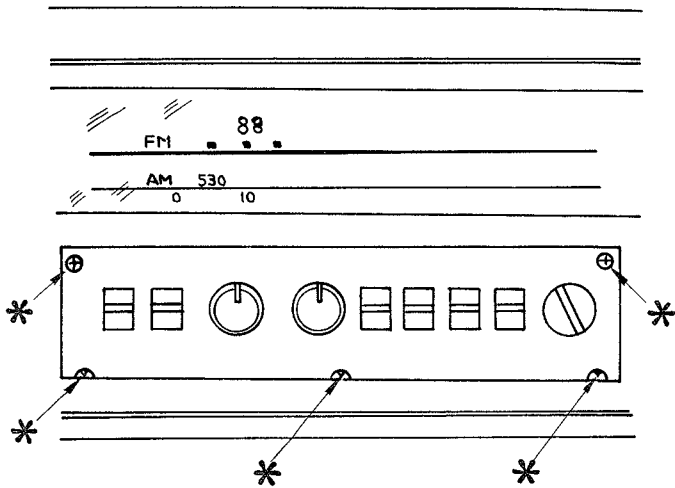

Fig. 2-10
- (c) Take off the decoration plate of control panel, by removing five screws (+ RF 2.0x6). See Fig. 2-10.